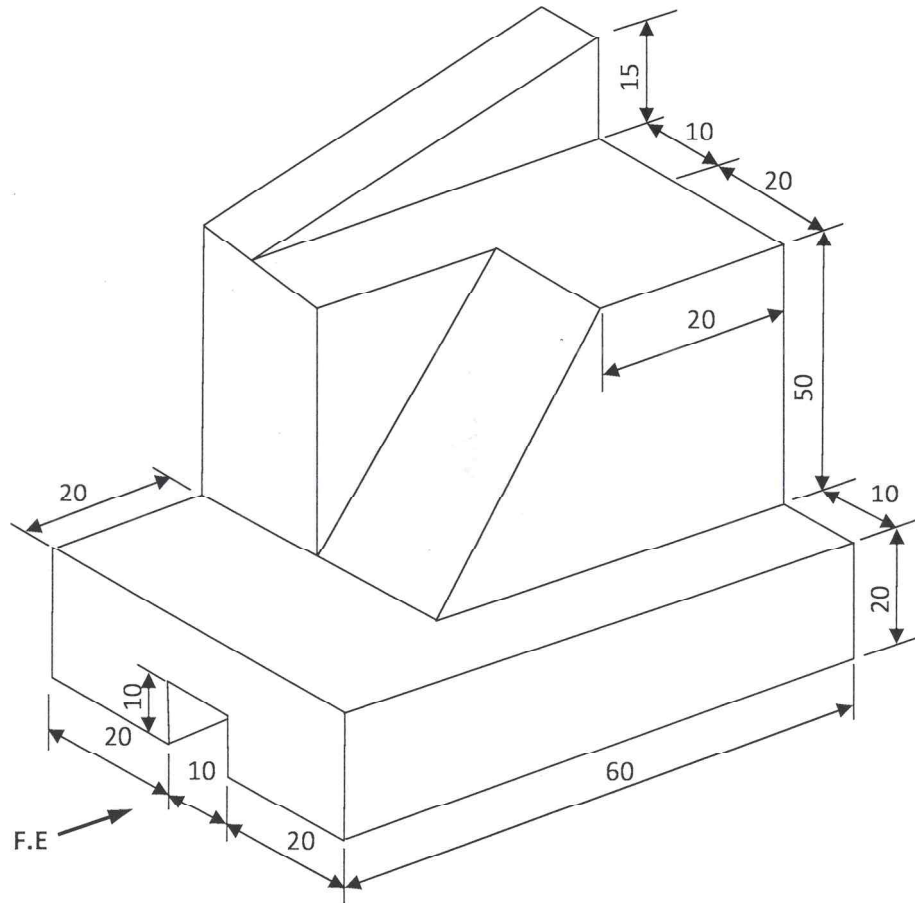

Figure 2
- 11** Figure 2 shows a shaped block.